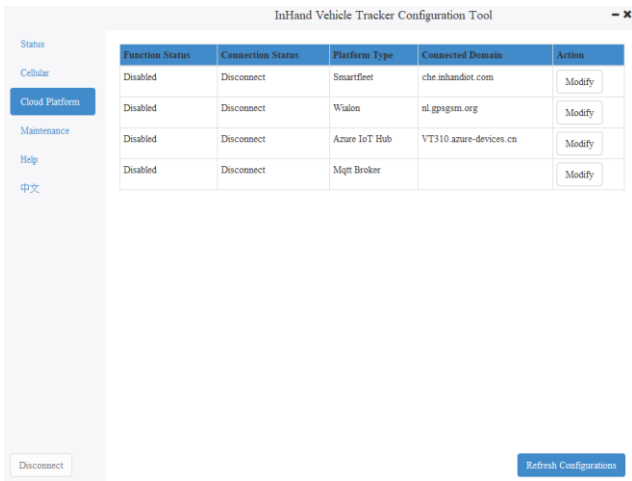

Figure 6-1
Step 1: Click **Cloud Platform** in the left-side navigation pane to access the configuration page. Select the target cloud platform and click **Modify** in the **Action** column. Figure 6-1 shows the configuration page.